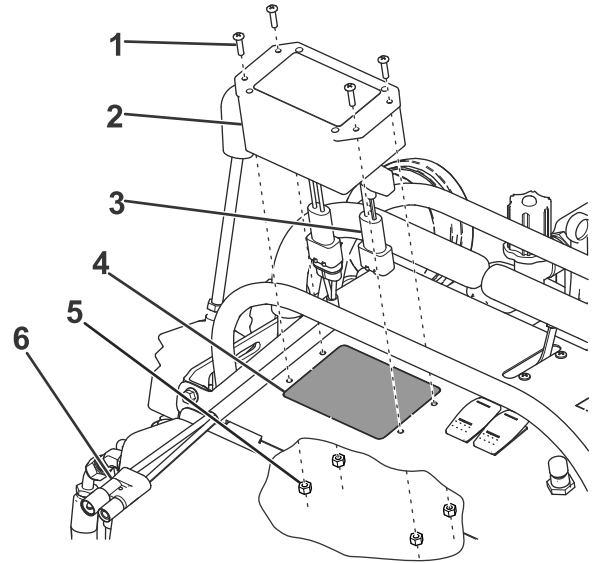

Figure 19
- Remove the knockout panel on the control panel (Figure 19).
- Insert the controller into the opening and secure it with 4 bolts (#10) and nuts as shown in Figure 19.